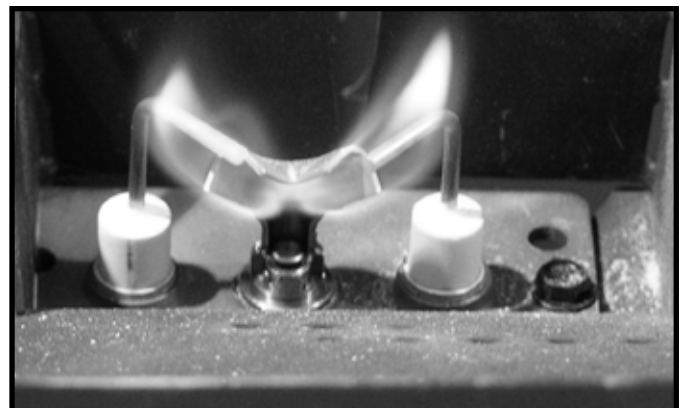

Figure 4.6 Pilot Flame Patterns
- Inspect pilot flame pattern and strength. See Figure 4.6 for proper pilot flame pattern. Clean or replace orifice spud as necessary.